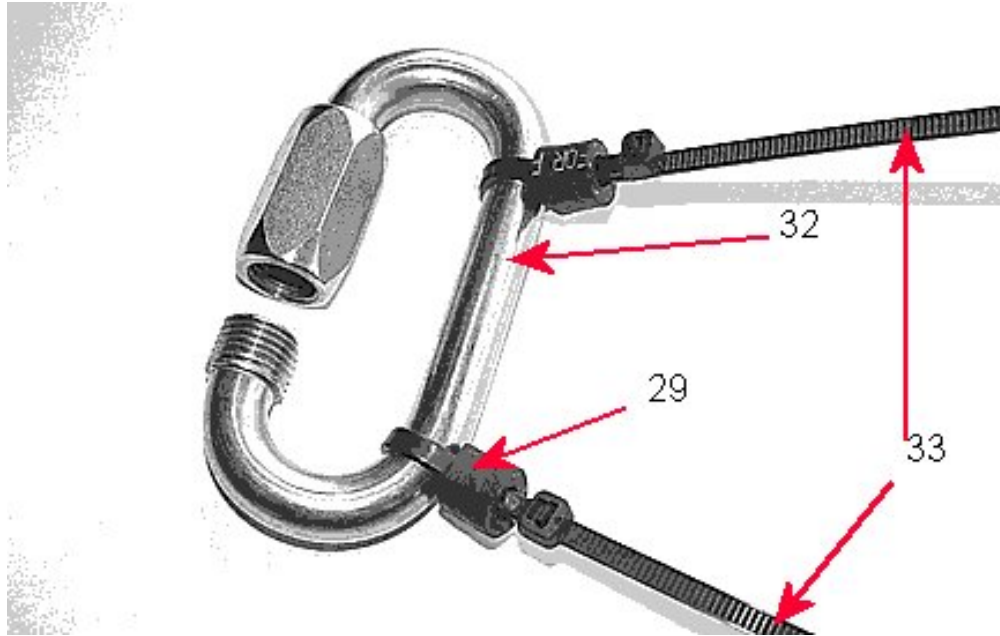

Figure 1-1: Stainless steel link
- 1.3 Use 4 CABLE-TIES (Item 33 in Figure 1.1 below) and attach 2 STAND-OFFS (Item 29) on each Link as shown in Figure 1.1.